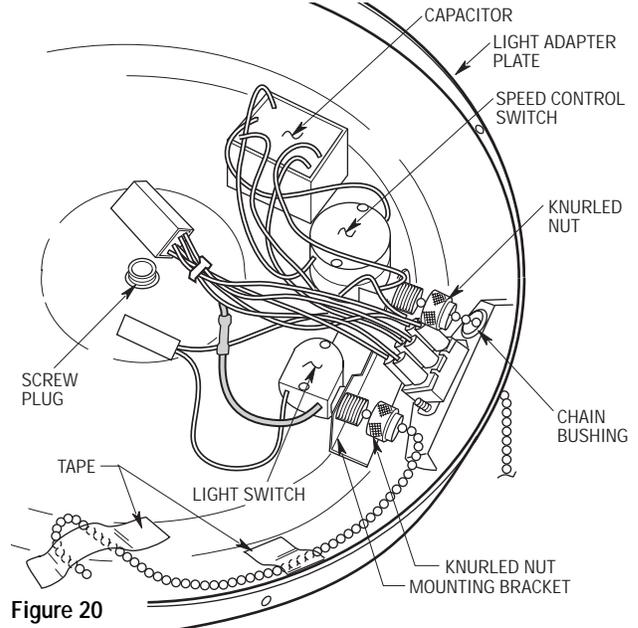

Figure 20
5. Position the two switches of the harness assembly in the mounting bracket; the small switch (light switch) installs in the left hole and the larger switch (speed control switch) installs in the right hole (Figure 20). Secure the switches using the appropriate knurled nuts. Pass the speed control switch chain through the chain bushing. If desired, tape the other switch chain to the adapter plate as shown (tape not supplied).
6. Remove one protective covering from the two-sided foam tape (supplied) and apply the foam tape to the capacitor. Remove the remaining protective covering and then firmly press the capacitor onto the adapter plate (Figure 20).
8. Remove the screw plug (Figure 20) from the bottom of the light adapter plate and install your optional Emerson light fixture in accordance with the light fixture Owner's Manual.